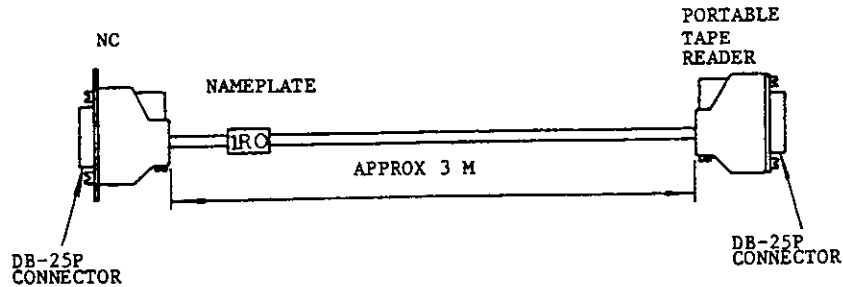

Fig. 5.11 Cable Connector for RS232C Interface
c. Connect the portable tape reader to the NC with the RS232C cable connector delivered with the tape reader (or prepared by the user). When the delivered cable connector is used, plug the connector marked with a "1RO" nameplate to the 1RO connector on the NC (Fig. 5.11).